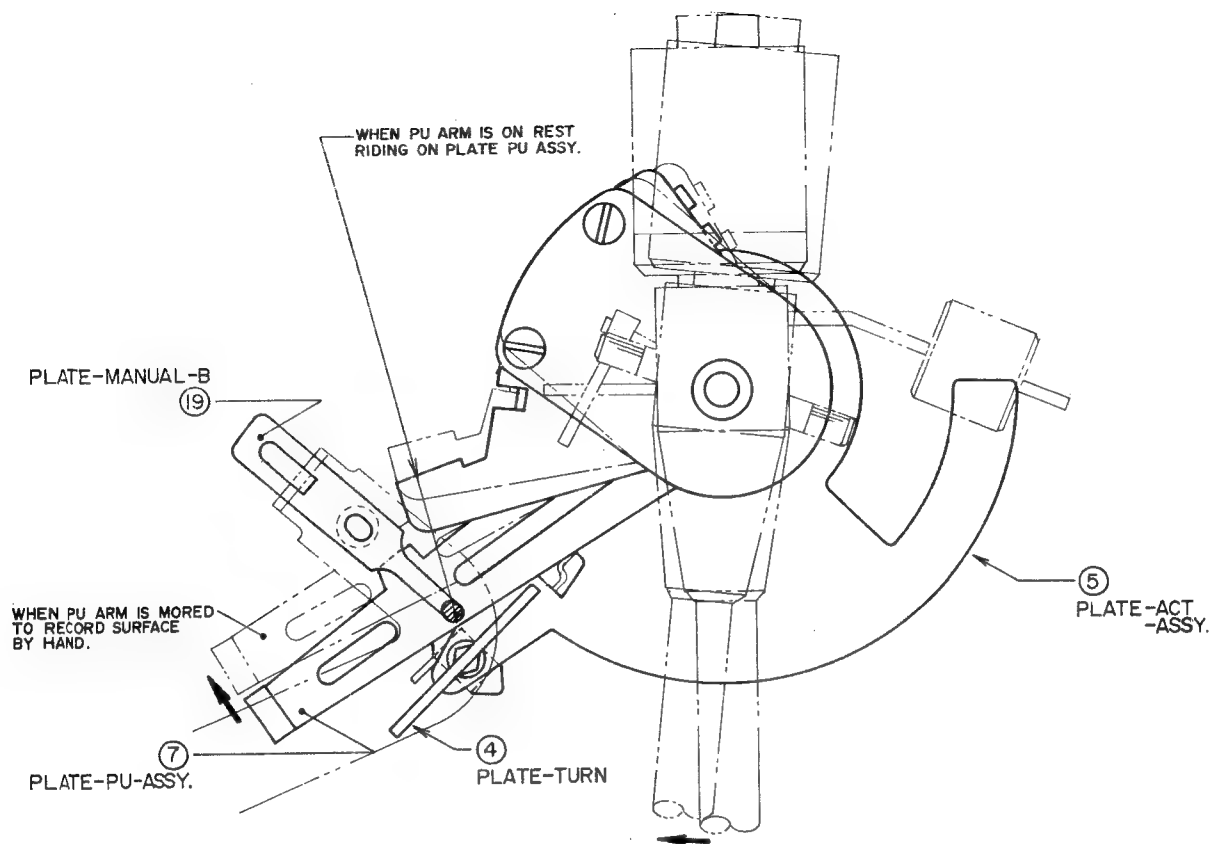

Fig. 10 When operated manually
(5) MANUAL OPERATION (Lead in only)
When the pick-up arm stylus tip is lifted during performance (after the record tune or during performance) for movement by hand to a desired point, PLATE-MANUAL-B (19) which rides on PLATE-PU-ASSY (7) separates and drops as shown in Fig. 10.